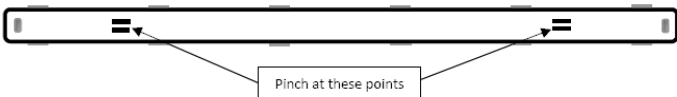

Fig. 2
- Remove the gear tray from the base by pinching the clips at the two locations (see Fig. 2)